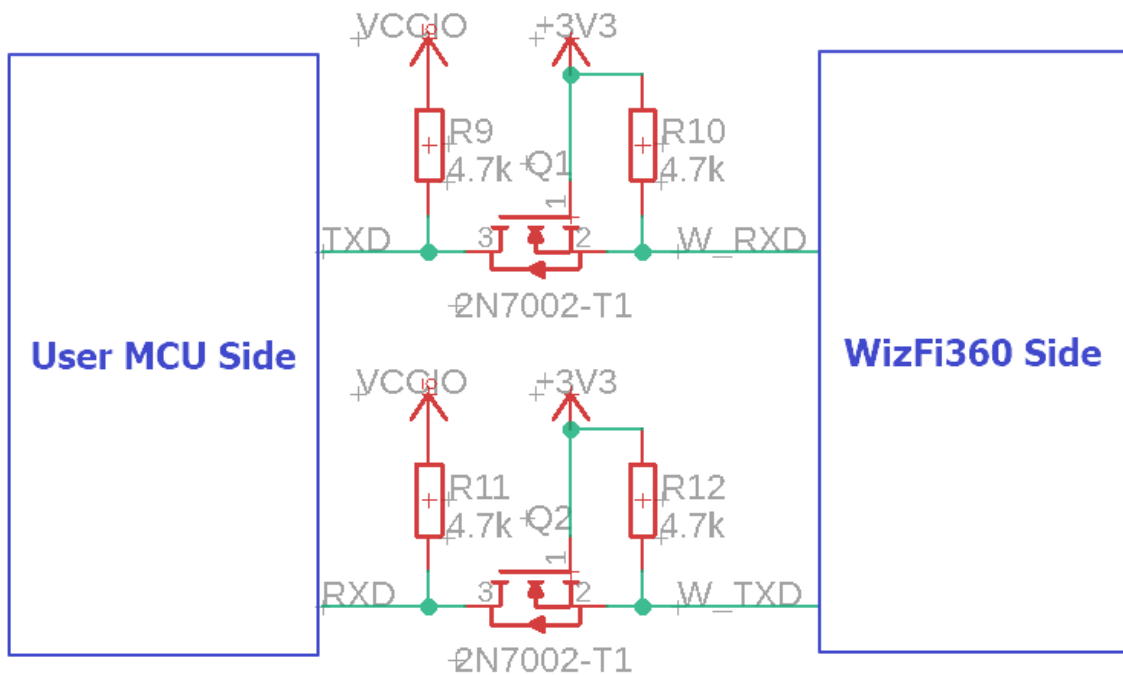
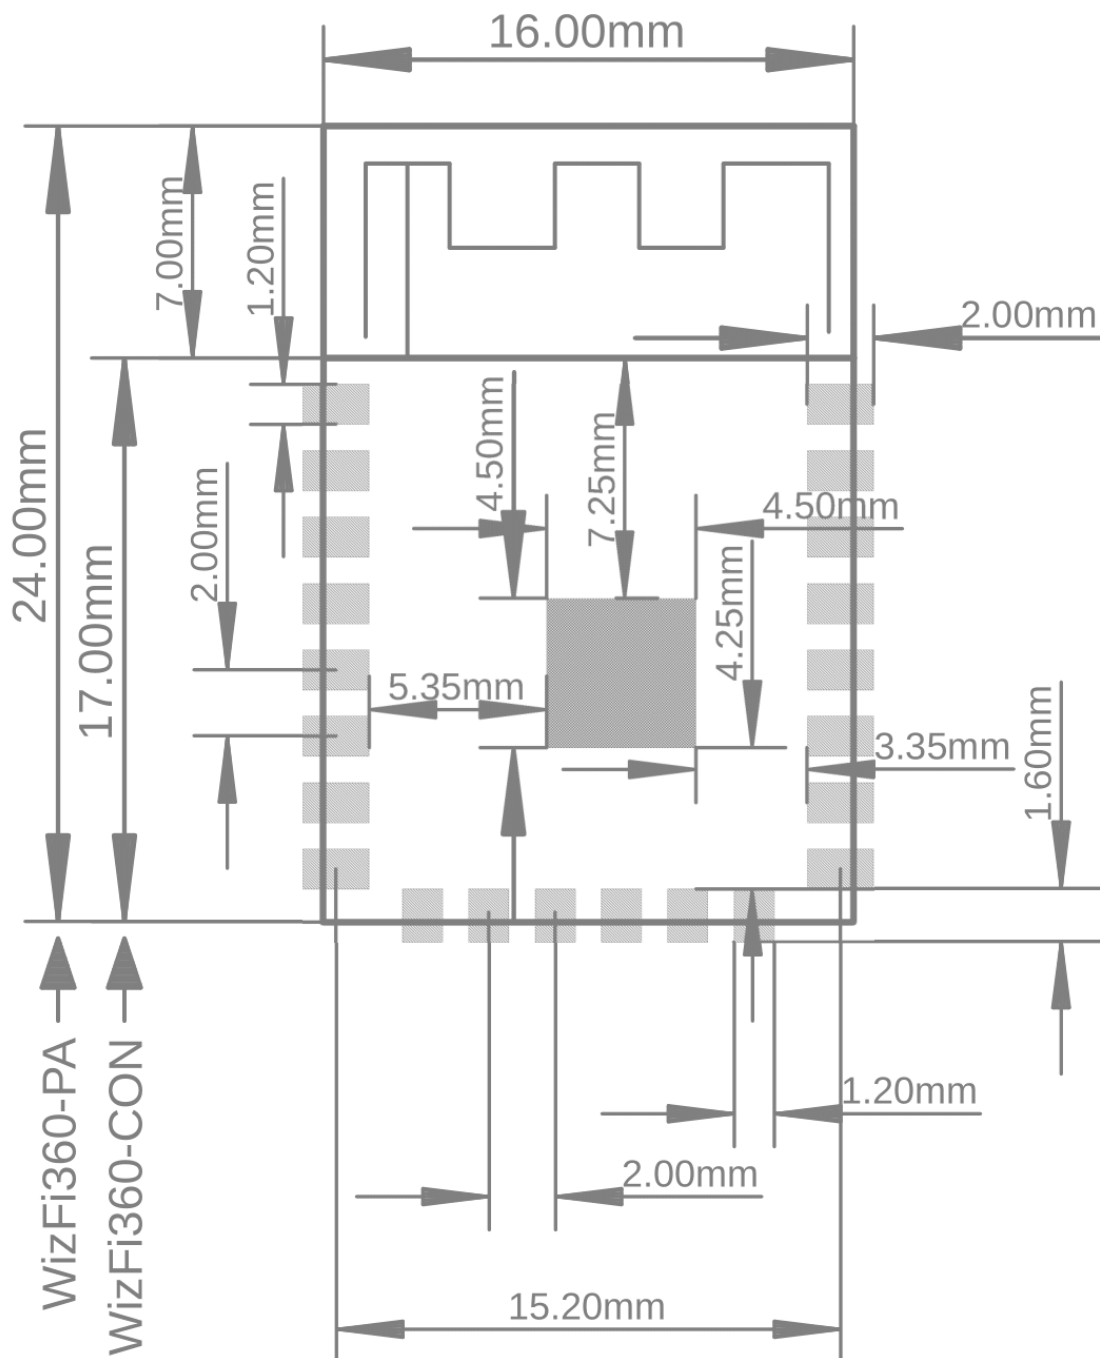

Figure 6. UART Level Shifter
Figure 7. Recommended PCB Land Pattern of WizFi360
- Figures. 6 and Figures. 7 are 2 antenna placement which can best performance of antenna. We suggest customers to choose one of these 2 modes to design the placement. For the second placement mode, PCB antenna should be at least 5.0mm from both sides of the bottom board.